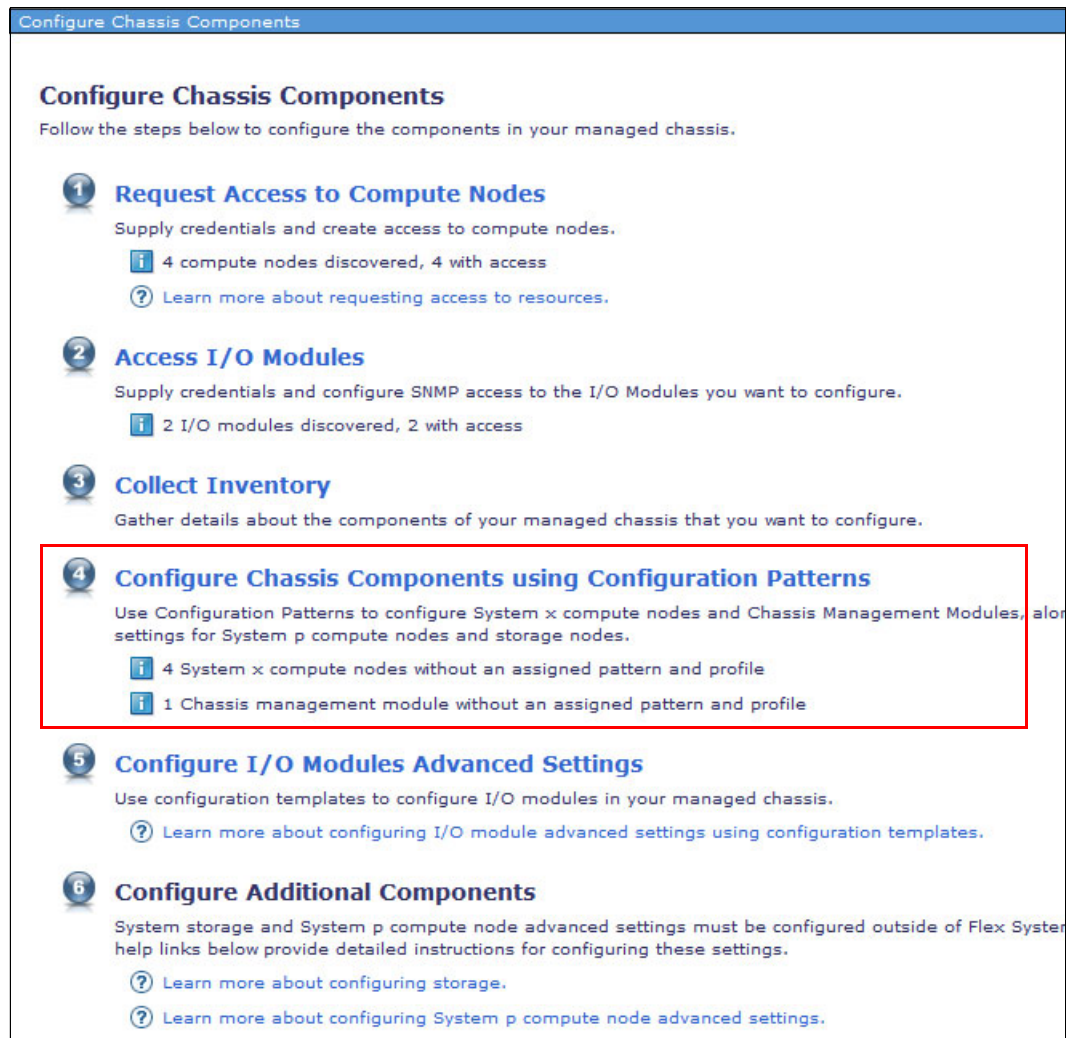

Figure 6-38 Configure Chassis Components window
1. From the Initial Setup tab in the Home windows, select **Configure Chassis Components**, then click **Configure Chassis Components using Configuration Patterns**, as shown in Figure 6-38.